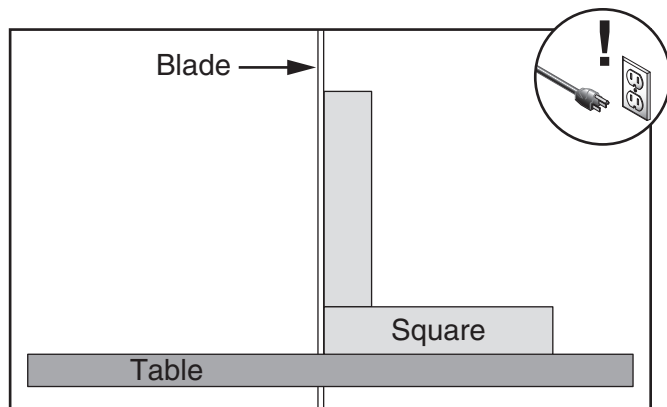

Figure 62. Squaring table to blade.
4. Raise the guide post and place a machinist's square on the table next to the side of the blade, as illustrated in **Figure 62**. Adjust the table square with the blade, then secure it with the table tilt lock lever.